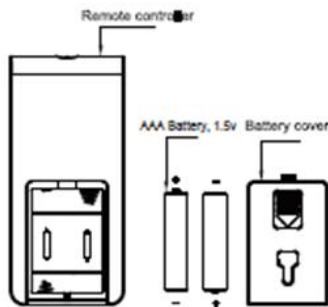

Fig.10 Battery Compartment
(1) Slide the battery compartment cover.
(2) Insert the batteries, and make sure that the batteries are placed as shown in the Fig.10.
(3) Slide back the battery cover.